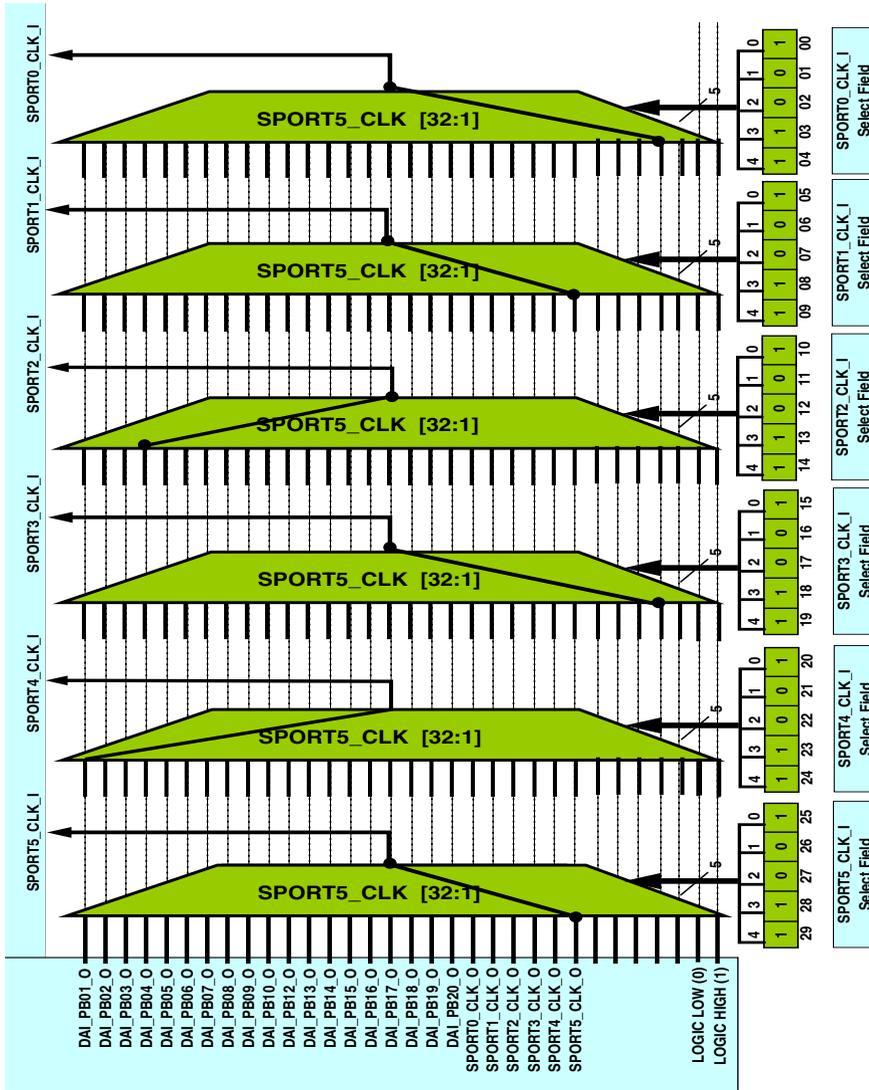

Figure 5-9. Example DAI SRU Group A Multiplexing (SRU\_CLKx)
signals (or at least could be clock signals in some systems). Figure 5-9 shows the input signals that are controlled by the group A register, `SRU_CLKx`. All bit fields in the SRU configuration registers correspond to inputs. The value written to the bit field specifies the signal source. This value is also an output from some other component within the SRU.
The SRU is similar to a set of patch bays. Each bay routes a distinct set of outputs to compatible inputs. These connections are implemented as a set of memory-mapped registers with a bit field for each input. The outputs are implemented as a set of bit encodings. Conceptually, a patch cord is used to connect an output to an input. In the SRU, a bit pattern that is associated with a signal output (shown as item 1 in Figure 5-9) is written to a bit field corresponding to a signal input.